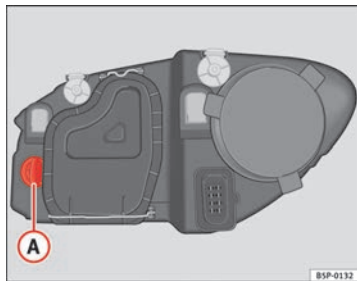

Fig. 187 Turn signal
- Rotate the bulb holder ⇒ fig. 187 **A** to the left and pull.